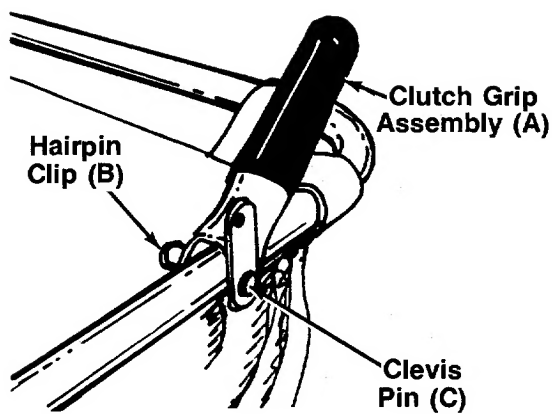

FIGURE 9.
1. Assemble the clutch grip (A) to the left hand side of upper handle. Secure in place with clevis pin (C) and hairpin clip (B). See figure 9. Head of clevis pin should be to the outside of handle.